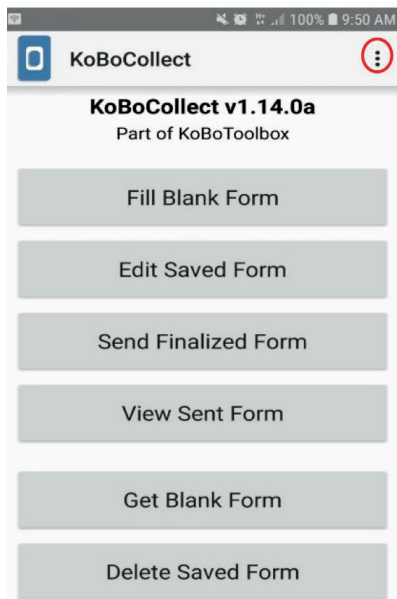
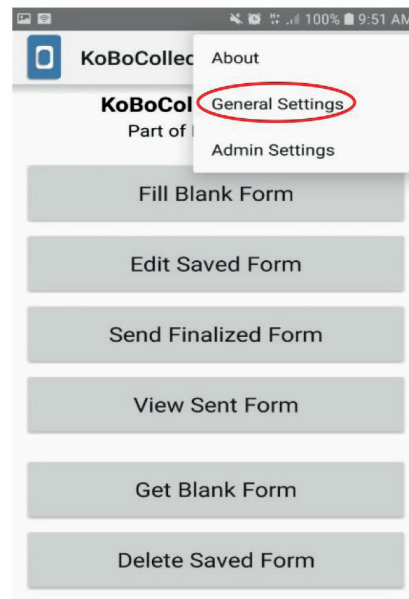

Figure 12: KoBoCollect Interface - Server Configuration
Figure 13: KoBoCollect Interface - Accessing General Settings
1. Once location settings have been adjusted; click on the KoboCollect application. The following interface will appear. (Figure 12) Click on the icon  on the top right-hand corner of the page, then click on "General Settings" (Figure 13).